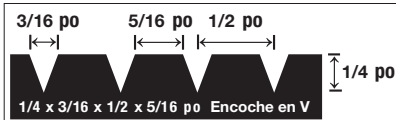

Figure 2
- Truelle de 6 x 13 x 8 mm (1/4 x 1/2 x 3/16 po) (Figure 2)